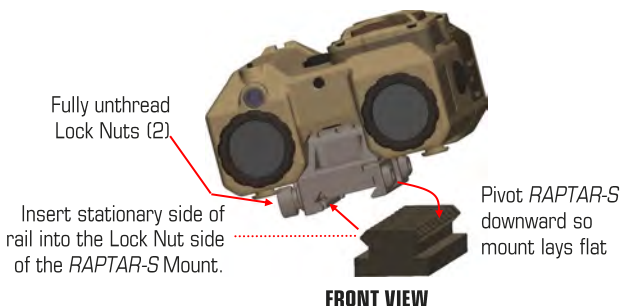

Figure 2.3-1 Mounting the *RAPTAR-S* to the RIS/RAS Rail (12 O'Clock Position Depicted)
- Step 2.)** Insert the stationary side of the MIL-STD-1913 rail into the Lock Nut side of the *RAPTAR-S* mount (see Figure 2.3-1).